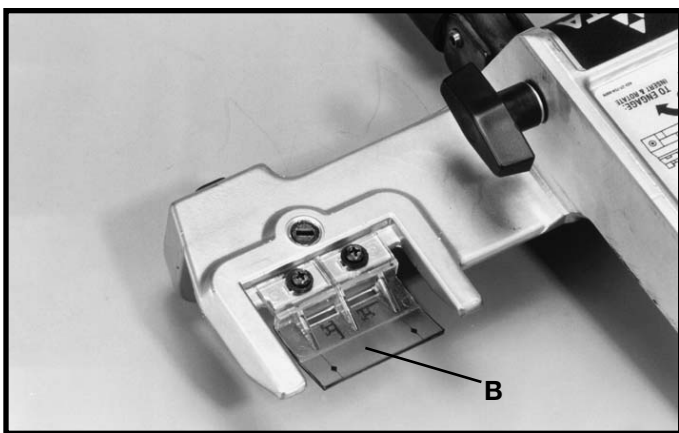

Fig. 69
2. Fig. 69, illustrates the cursor (B) assembled to the Unifence body. Final adjustment to the cursor (B) will be made later.